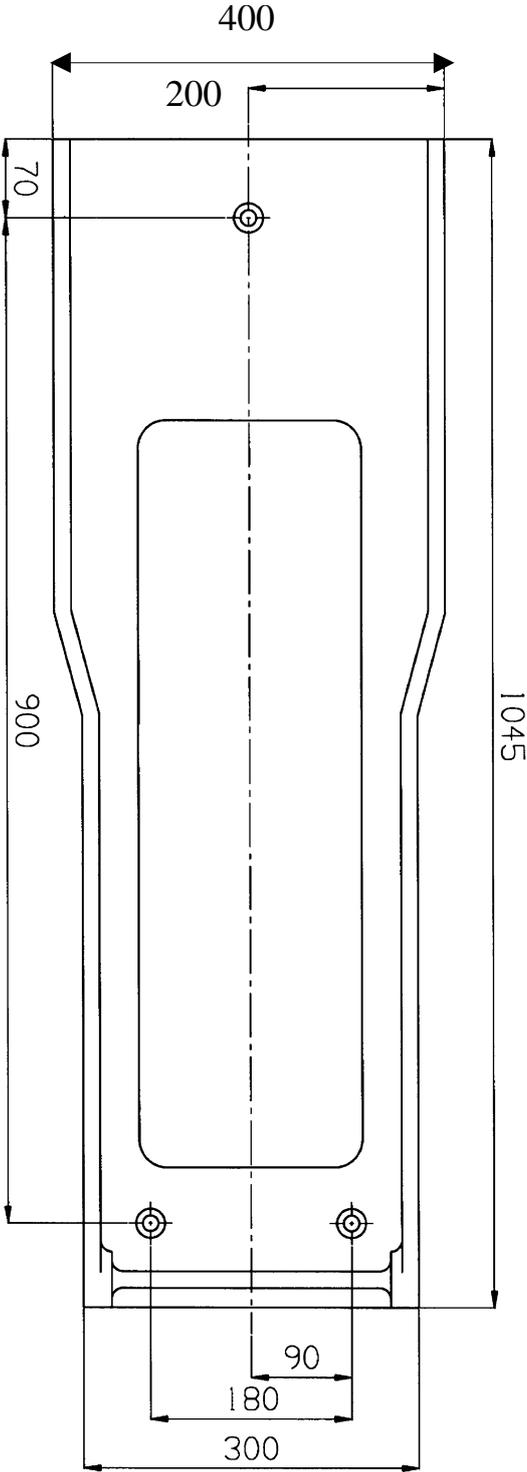
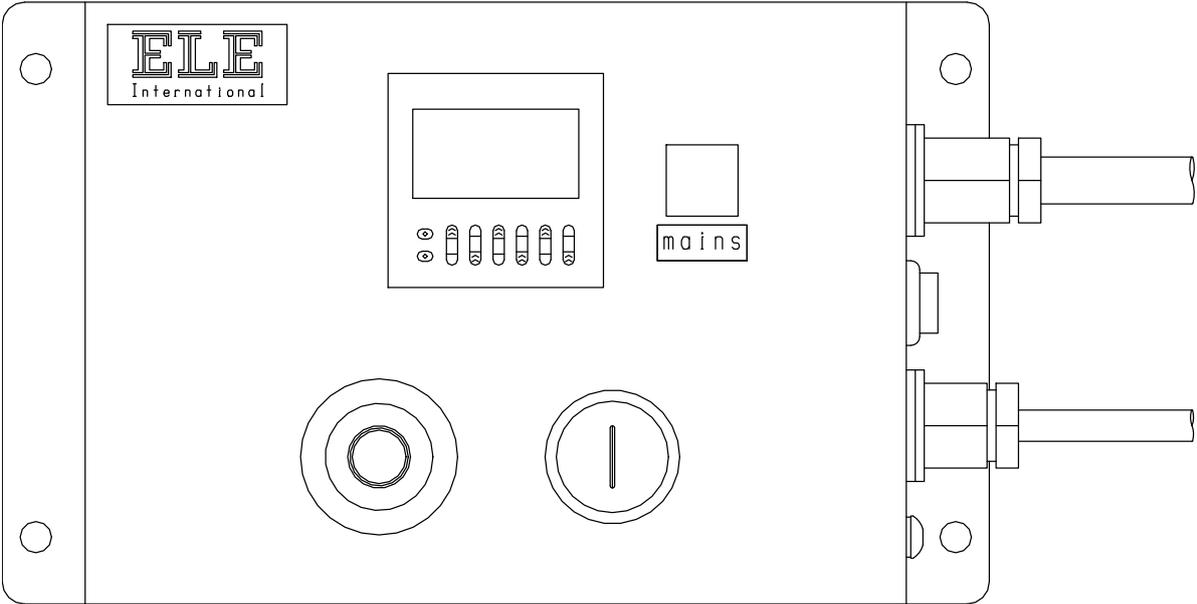

Figure 3 – View of machine base footprint showing the 14 mm diameter securing holes.
Figure 4 – Wall mounted remote control unit.
- 3.1 The machine should be mounted on a concrete block in accordance with the relevant standard. Three 14 mm diameter holes are provided in the base of the machine for securing purposes. Access to the foremost of these holes will be made easier if the front cover panel is first removed, refer to figure 3. The remote control box, figure 4 (later models) should be wall mounted.